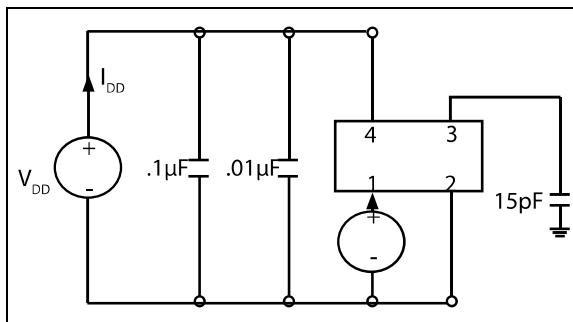

FIGURE 1-1: Test Circuit.
2: Parameters are tested with the test circuit shown in Figure 1-1. Add $((50 \text{ pF} - 15 \text{ pF}) \times V_{DD} \times f_{OUT} \text{ (in MHz)} \times 0.001) \text{ mA}$ for the ±50 pF option
- 2:** Parameters are tested with the test circuit shown in Figure 1-1. Add $((50 \text{ pF} - 15 \text{ pF}) \times V_{DD} \times f_{OUT} \text{ (in MHz)} \times 0.001) \text{ mA}$ for the $\pm 50 \text{ pF}$ option
- 2:** Parameters are tested with the test circuit shown in Figure 1-1. Add $((50 \text{ pF} - 15 \text{ pF}) \times V_{DD} \times f_{OUT} \text{ (in MHz)} \times 0.001) \text{ mA}$ for the ±50 pF option